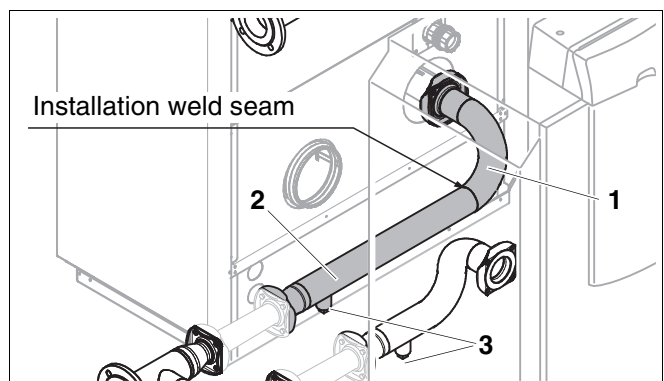

Fig. 13 Welding the long return piece
- Place the flange of part 2 of the long return piece (Fig. 13, [2]) with gasket on the second pump and secure using four bolts and nuts.
The fem. connection on the return connection (Fig. 13, [3]) is provided for draining.